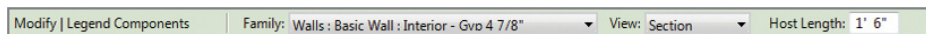

FIGURE 11.36 Select a legend component to access its properties in the Options Bar.
3. The family appears in the view as a 3' (1000 mm) long plan wall. Change the view's detail level in the view's Properties palette from Coarse to Medium or Fine so you can see the detail in the wall. Remember, you can turn off the thicker lines in the view by clicking the Thin Lines button  in the QAT. With that done, highlight the inserted wall, and look at the Modify | Legend Components settings in the Options Bar (Figure 11.36).